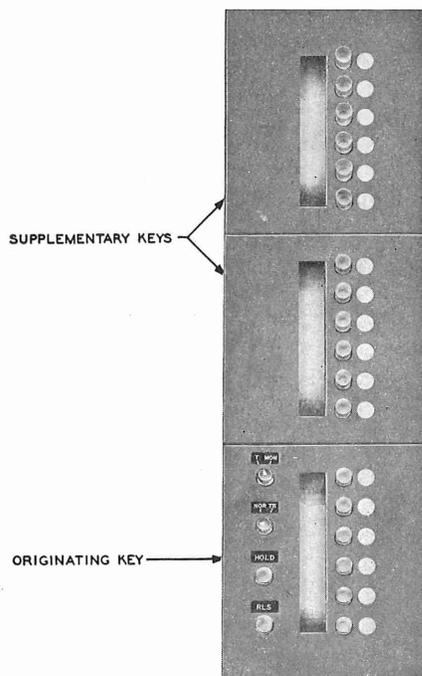
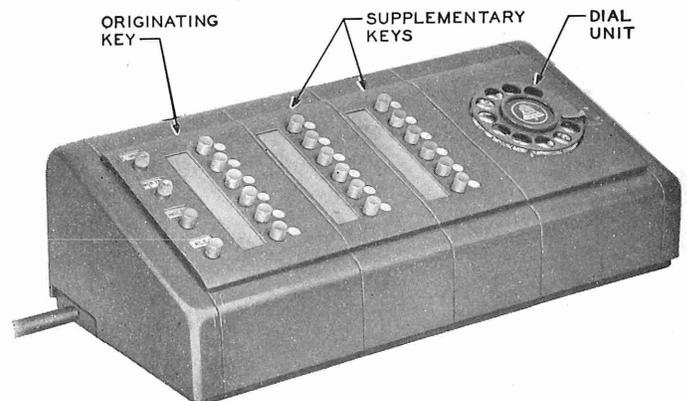

FIG. 1—700-TYPE KEY UNITS—FLUSH MOUNTED
FIG. 2—700-TYPE KEY UNITS—SURFACE MOUNTED
2.04 The 700-type key units are arranged for flush mounting in a vertical position in a panel or in the face of a non-Bell System console (see Fig. 1); or they may be mounted horizontally in an apparatus case for surface mounting on tables or desks (see Fig. 2).